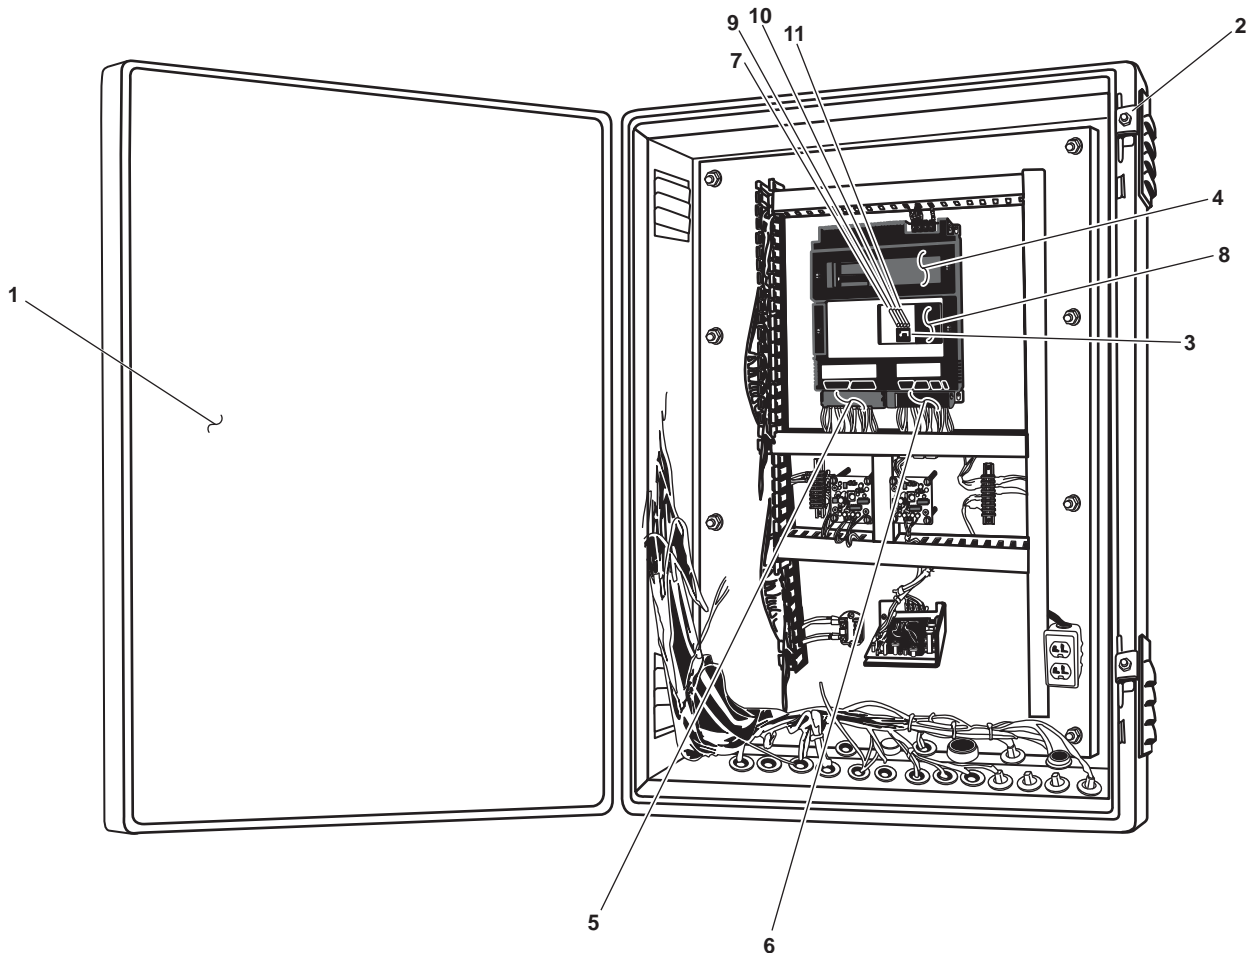

Figure 1. Towing Machine Control Panel
1. Open the control panel door (figure 1, item 1) by loosening the two locking clamps (figure 1, item 2).
2. Check the HALT/RUN selector switch (figure 1, item 3) on the programmable controller (figure 1, item 4). Ensure that it is in the RUN position. If the HALT/RUN selector switch is not in the RUN position, notify the maintenance supervisor.
3. Check the INPUT LED (Light Emitting Diode) indicators (figure 1, item 5) on the programmable controller (figure 1, item 4) to ensure that all input signals are ON. Notify the maintenance supervisor if any of the INPUT LED indicators are OFF.
4. Check the OUTPUT LED indicators (figure 1, item 6) on the programmable controller (figure 1, item 4) to ensure that all output signals are ON. Notify the maintenance supervisor if any of the OUTPUT LED indicators are OFF.
5. Check the POWER indicator (figure 1, item 7) on the Central Processing Unit (CPU) status indicator (figure 1, item 8) to ensure that it is ON while power is applied. Notify the maintenance supervisor if the POWER indicator is OFF.
6. Check the RUN indicator (figure 1, item 9) on the CPU status indicator (figure 1, item 8) to ensure that it is ON while the programmable controller (figure 1, item 4) is operating normally. Notify the maintenance supervisor if the RUN indicator is OFF.
7. Check the FAULT indicator (figure 1, item 10) on the CPU status indicator (figure 1, item 8) to ensure that it is OFF. Notify the maintenance supervisor if the FAULT indicator is ON.
8. Check the BATTERY indicator (figure 1, item 11) on the CPU status indicator (figure 1, item 8) to ensure that it is OFF. Notify the maintenance supervisor if the BATTERY indicator is ON.